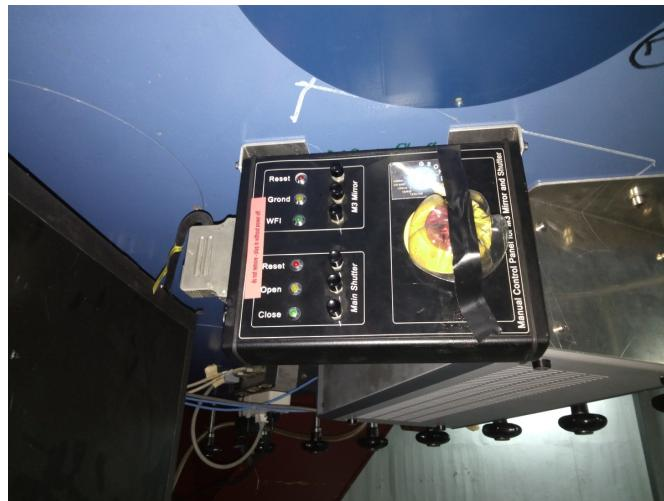

Figure 8.10: The GROND mirror and main cover control box.
2. On the box (Fig. 8.10), press the grondM3 WFI button.